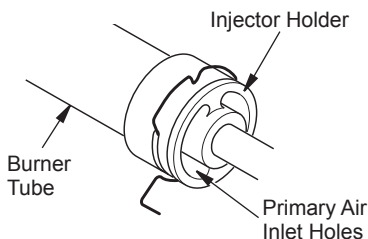

Figure 45 - Injector Holder On Outlet Burner Tube - Rear Burner
2. Inspect burners, pilot and primary air inlet holes on injector holder for dust and dirt (see Figures 45 and 46, page 26).